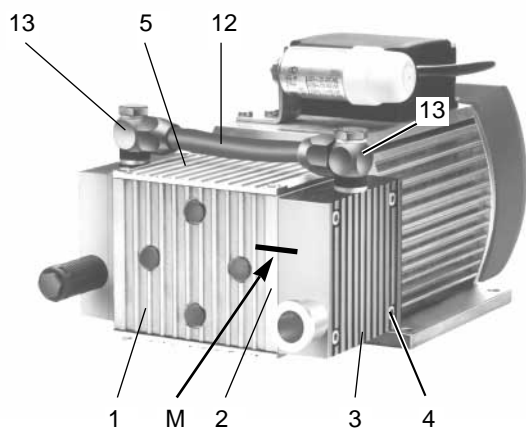

Fig. 4 Two head design
After having loosened and removed the four bolts from the case (Fig. 4 and 5, item 1) remove the cover (Fig. 4 and 5, item 5).
Mark the ribbed cover (Fig 4 and 5, item 3), intermediate panel (Fig. 4 and 5, item 2) and the casing (Fig. 4 and 5, item 1) with a felt-tip pen (Fig. 4 and 5/M). During subsequent re-assembly this will help to identify the parts thereby avoiding the incorrect assembly of wrong parts.
Loosen the four bolts of the ribbed covers (Fig. 4 and 5/item 4) and detach the ribbed cover together with the intermediate panel from the pump's casing.